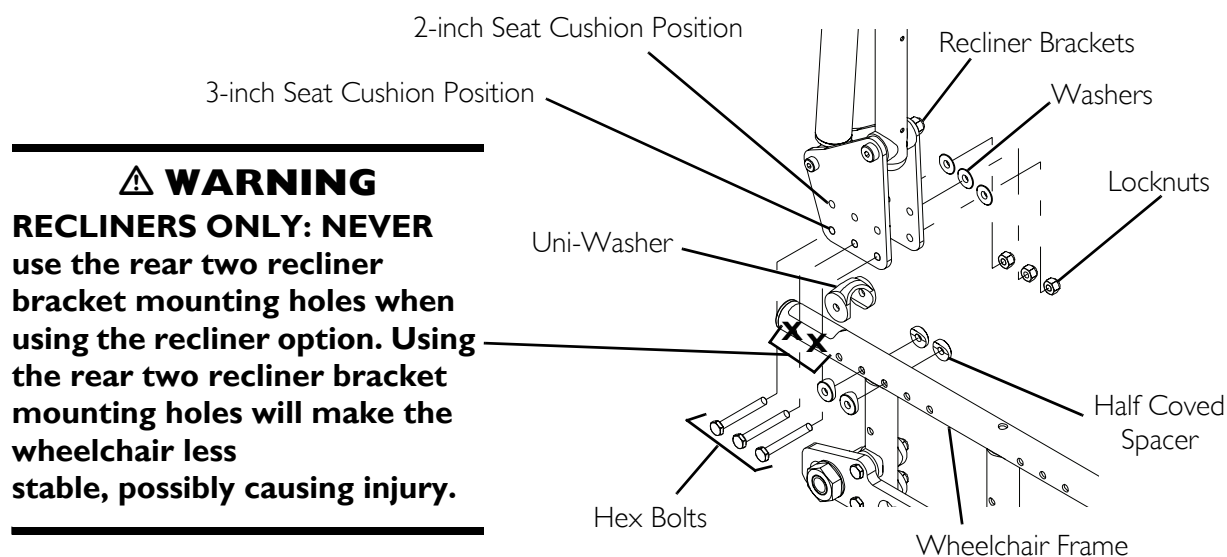

FIGURE 7.11 Repositioning the Back (Changing Seat Depth) - Recliners
NOTE: For this procedure, refer to FIGURE 7.11.
5. Reinstall the hex bolts, spacers, washers and locknuts through the recliner brackets and wheelchair frame and tighten securely (FIGURE 7.11).